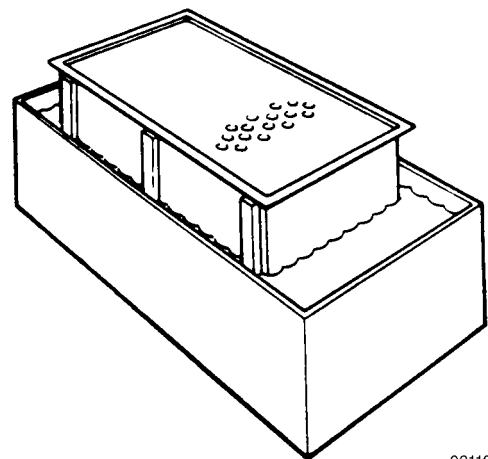

FIGURE 5-7. WASHING AND SOAKING THE PRECLEANER SECTION
2. Loosen clamps (8) and remove dust cups (10) and O-rings (9) from the precleaner section. Wash the dust cups with a water and liquid soap solution.
3. Submerge the precleaner section in a solution of Donaldson D-1400 and warm water (see Figure 5-7). Mix the solution according to the directions on the package. The tube section must be down. Soak for 30 minutes, then remove the precleaner section from the solution. Rinse thoroughly with fresh water and blow dry.